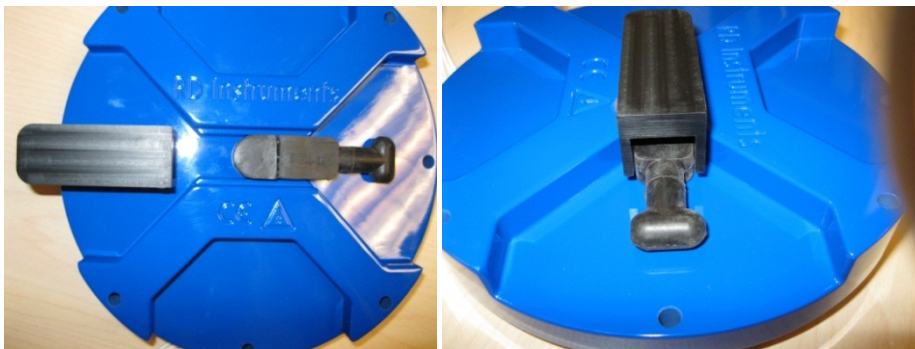

Figure 54. Extracting Wrench
10. Place the Extracting Wrench over the connector and dummy plug. The wrench will fit into the End Cap slot between the 2 rails (see Figure 54).